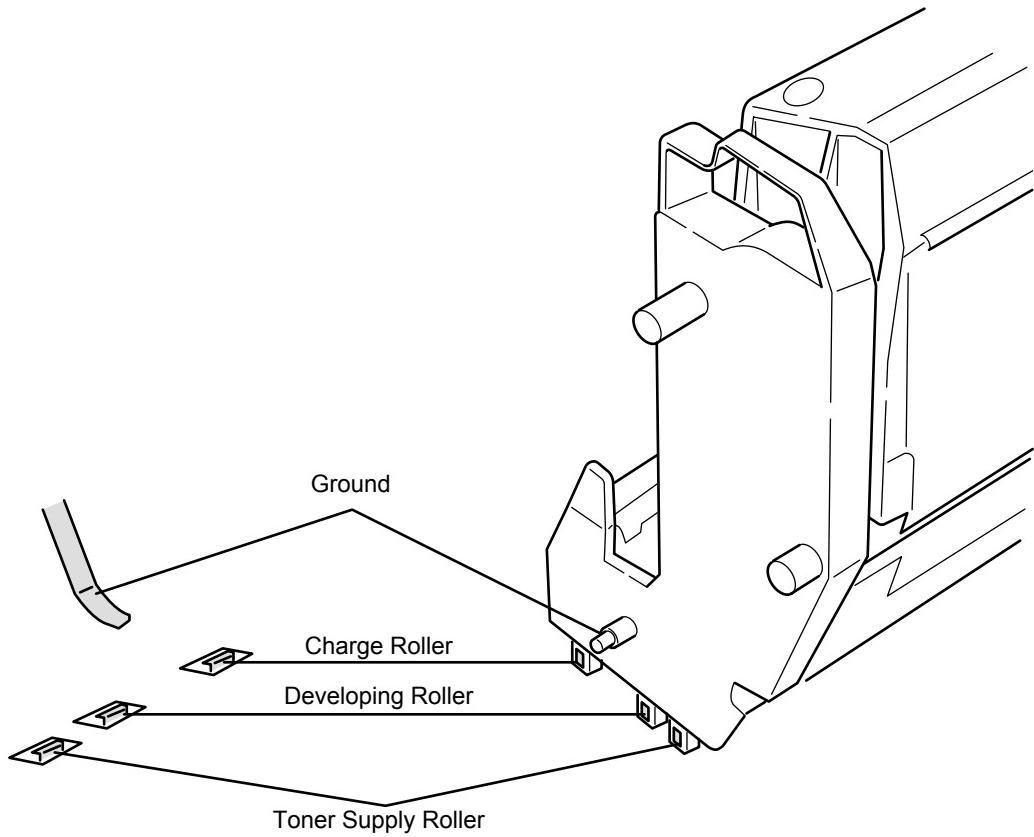

Figure 5.3
- ▼ NO Is the I/D terminal connected to the contact assembly properly? (See Fig. 5-3)
NO Is the I/D unit terminal connected properly to the contact assembly. (See Fig. 5-3)